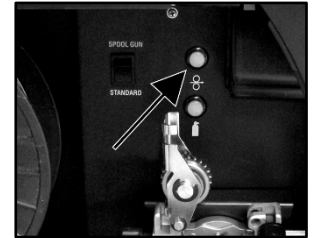

Fig. 17
10. Press and hold the inch button (Q) to feed the wire through to the torch neck. Release the inch button when the wire exits the torch neck (Fig. 17).